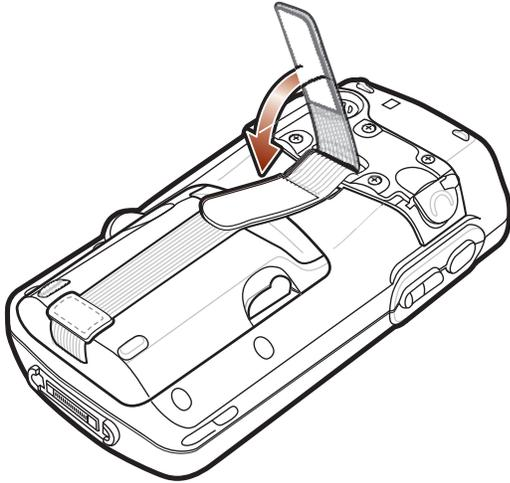

Figure 1-10 Handstrap Adjustment
2. Secure the handstrap by pressing the two sides together as shown in *Figure 1-10*.